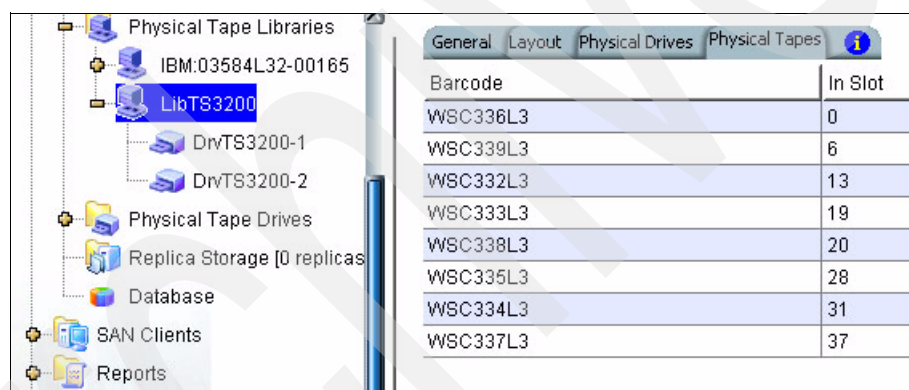

Figure 6-76 Discover new devices: Library inventory
14. After the inventory completes, left-click **Physical Tapes** to display the tape cartridges in the library. See Figure 6-76.